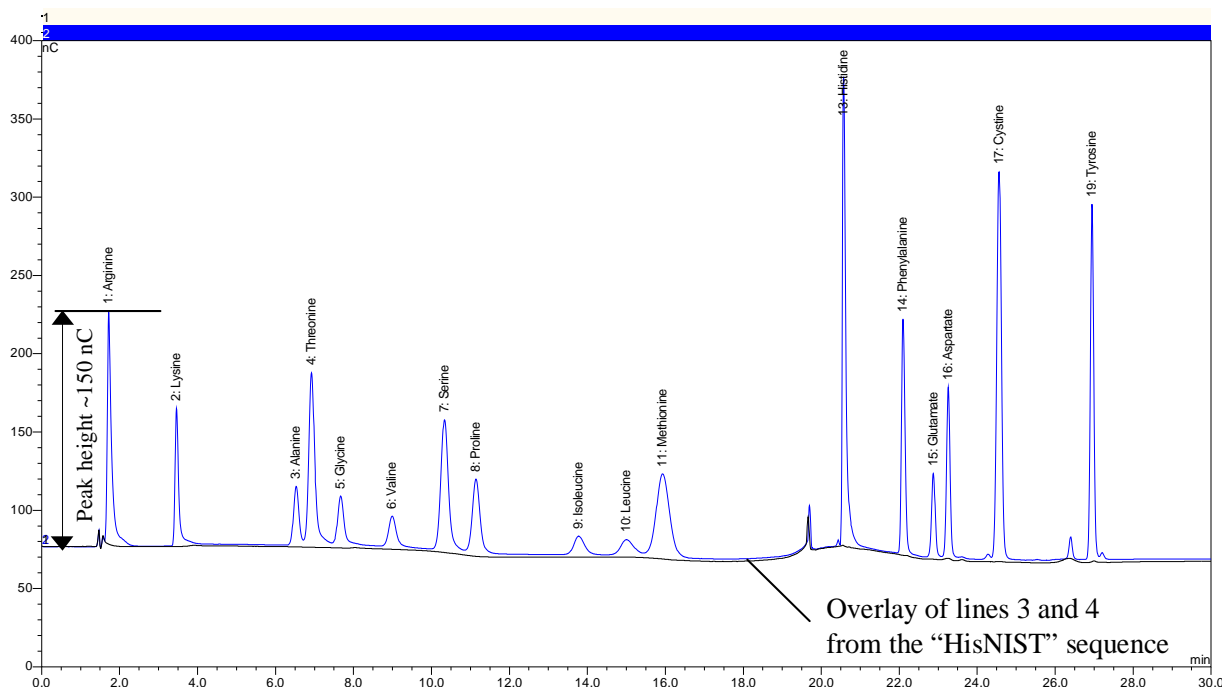

Figure 3
- k) Confirm that the Arginine peak is >120 nC/235 pmol (see Figure 3).